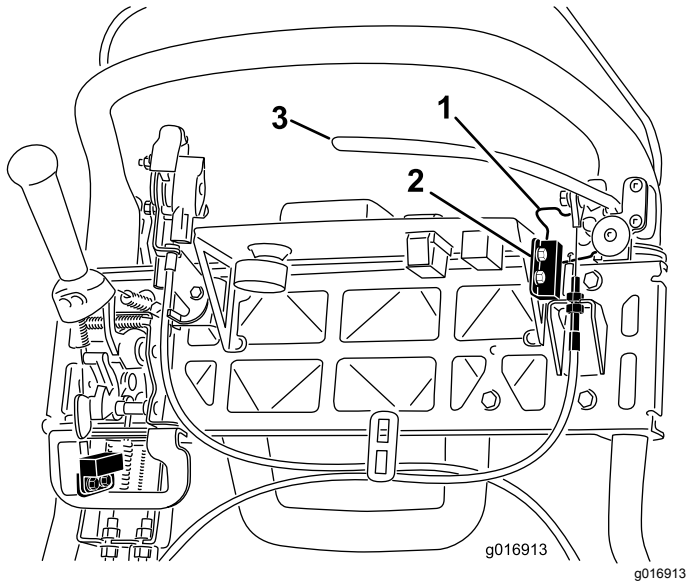

Figure 43
4. Loosen the interlock switch mounting fasteners (Figure 43).
5. Place a 1.6 mm (0.062 inch) thick shim between the parking-brake latch and the interlock switch (Figure 43).